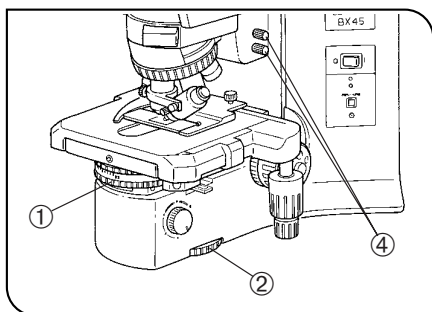

Fig. 33
(Figs. 33 - 35)
Store the centering screws in the accommodation positions ④ on the right side of microscope frame so as not to lose them. (Fig. 33)
1. Turn the turret (① in Fig. 33) to engage the BX45-DFA in the light path.
1. Turn the turret (① in Fig. 33) to select BF of the transmitted brightfield observation light path.